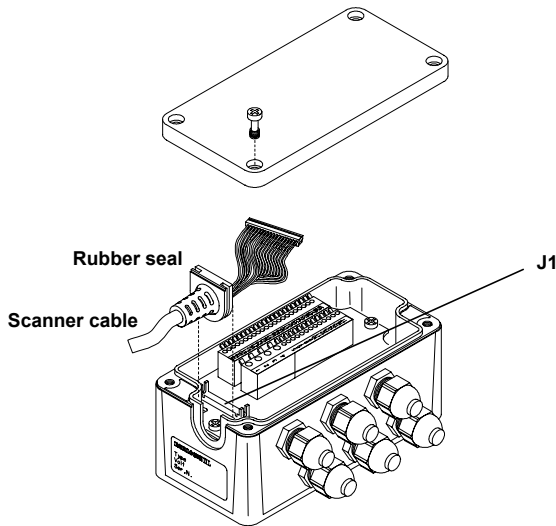

Figure 10 - Scanner cable connections to the junction box
- 4) After wiring the junction box and while the scanner is unplugged from the power, place the Scanner cable so that the rubber seal fits into the cutout in the housing of the junction box and plug the 24-pin connector into connector J1 on the PCB inside the junction box as shown in Figure 10.